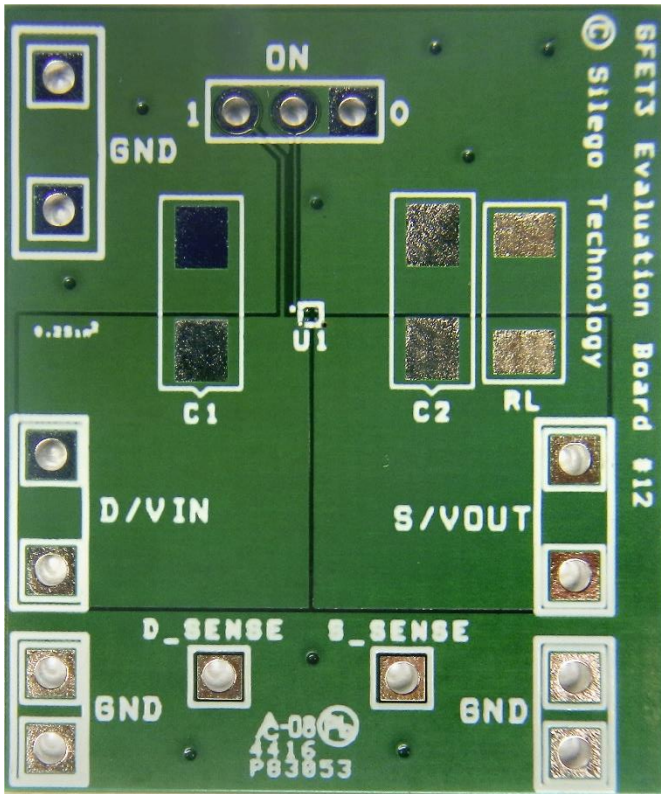

Figure 3. SLG59M1693C Evaluation Test Board
- 2.2. The D/VIN and S/VOUT pins carry significant current. Please note how the D/VIN and S/VOUT pads are placed directly on the power planes in Figure 3, which minimizes the $R_{DS(ON)}$ associated with long, narrow traces. The D/VIN, S/VOUT and GND pins dissipate most of the heat generated during high-load current condition. The layout shown in Figure 3 is illustrating a proper solution for heat to transfer as efficiently as possible out of the device.